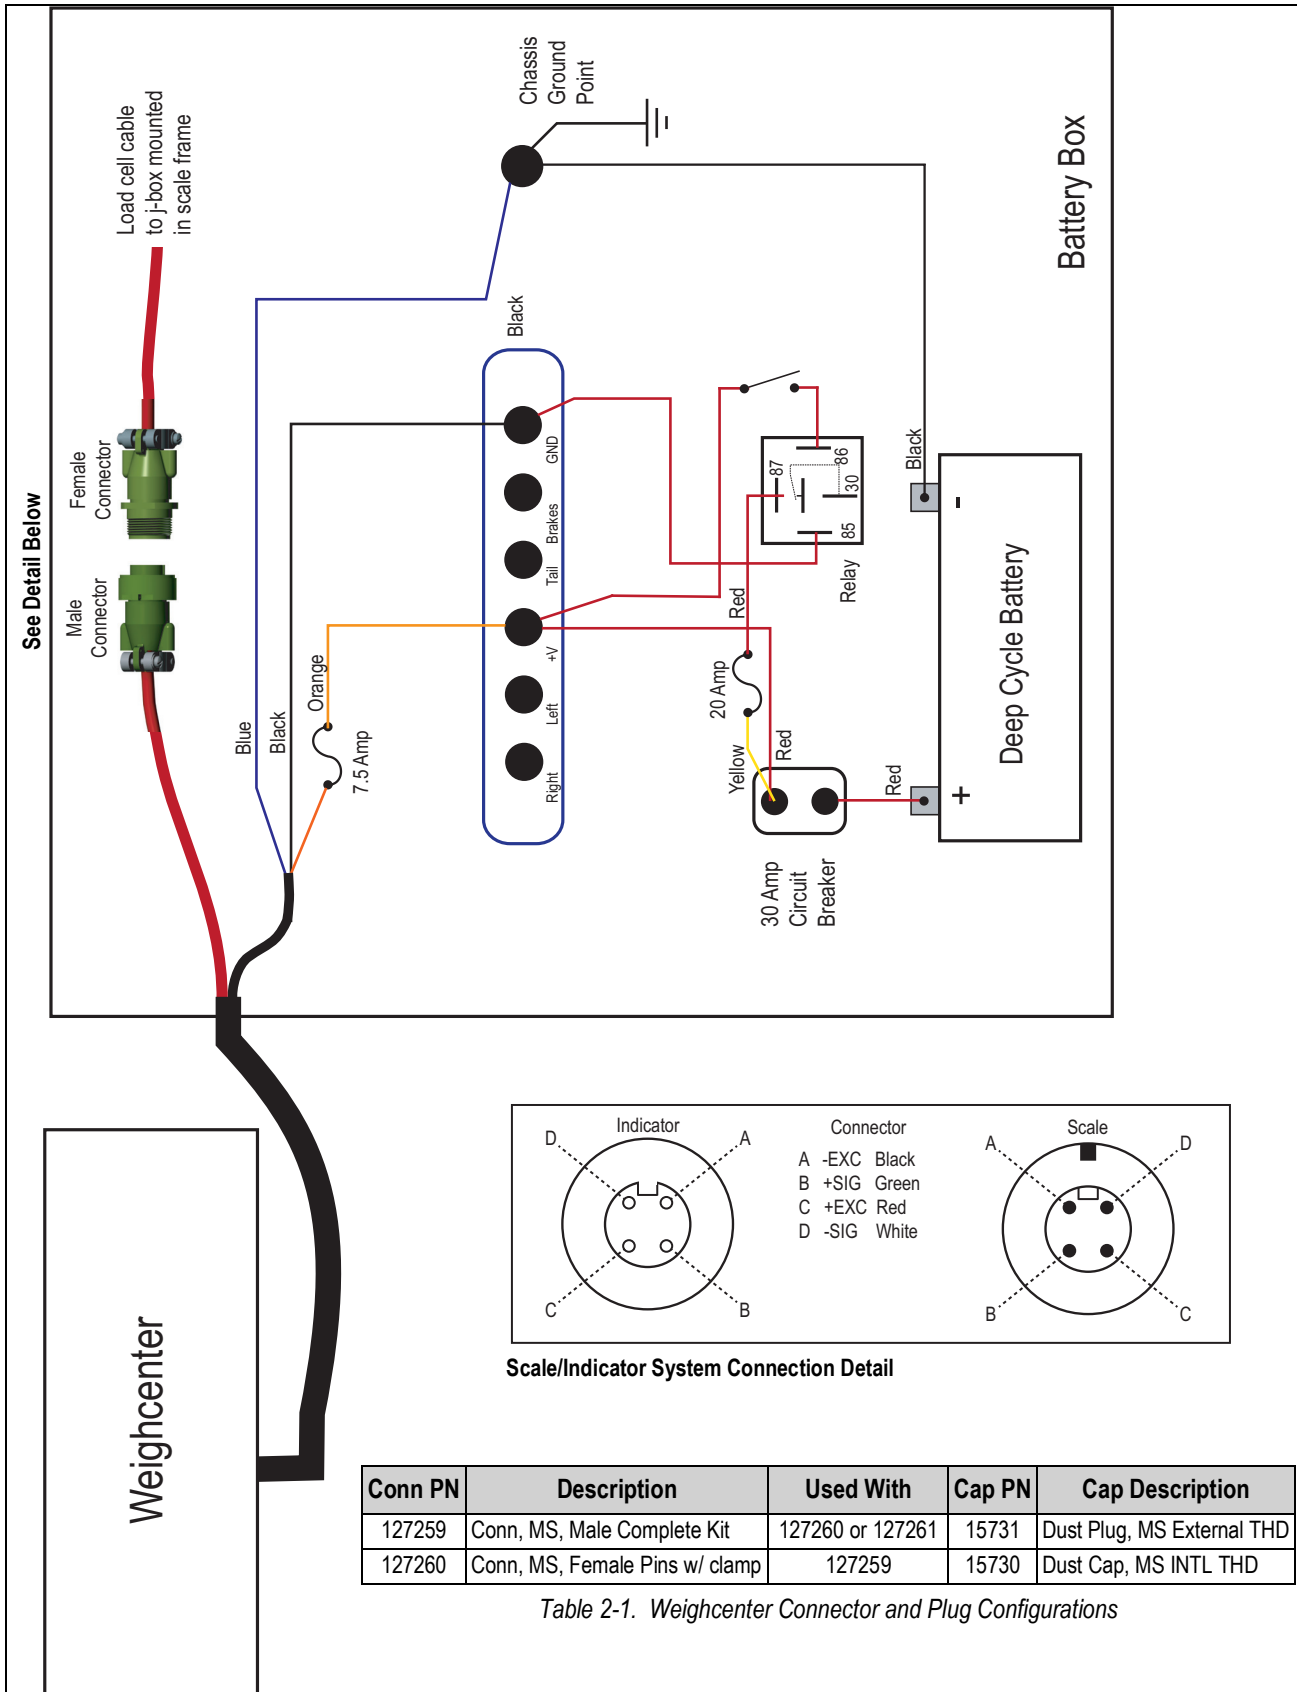

Figure 2-12. Scale Wiring Diagram
2. Connect the power wires (Figure 2-12 on page 14).